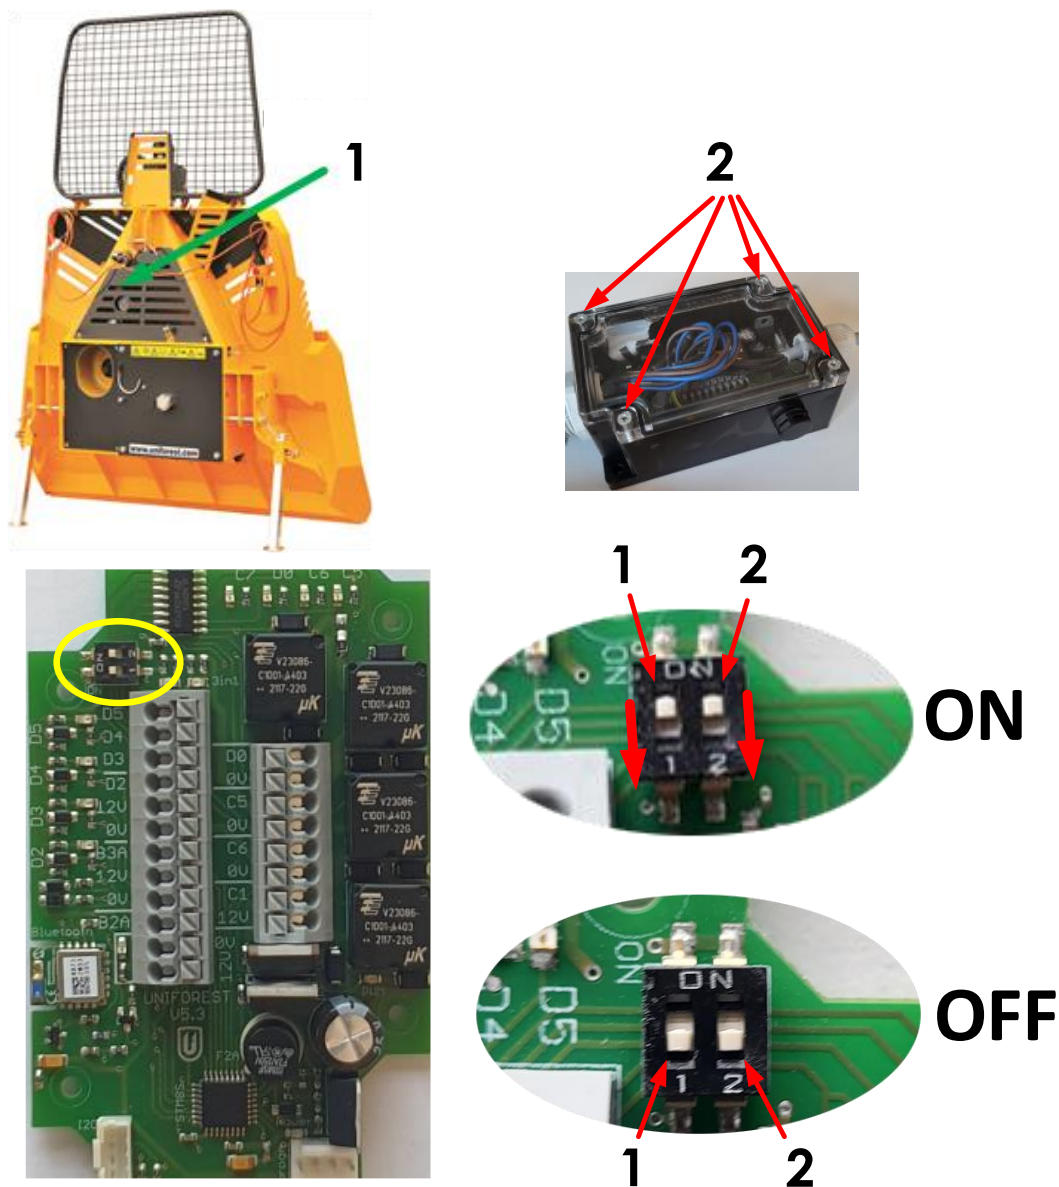

Figure 8a
Remove the protection on the winch (1, Figure 8a). Loosen the screws on the electric box (2). Move the switch 1(TERRA), 2(SMART 3in1) on the switch panel to position OFF. Close the box and tighten the screws (2). Install the protection (1) back onto the winch.